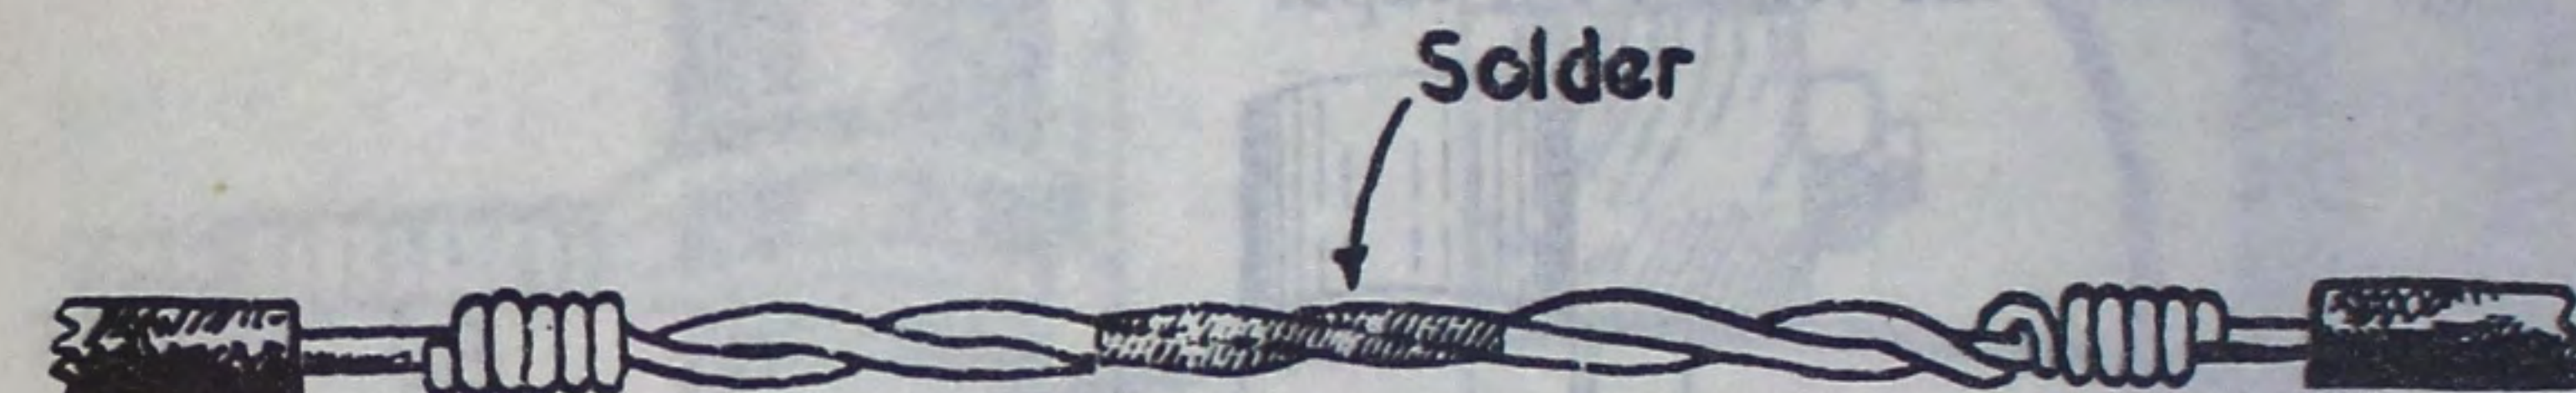

Fig 26.—Roll joint
8. **Roll Joints** are made as follows (see Fig 26):—